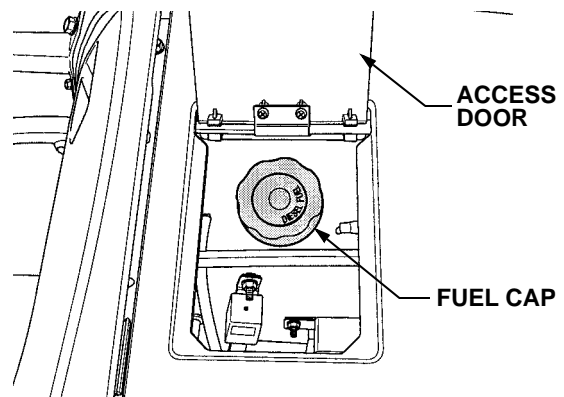

Figure 50
- Check the fuel level before each use. Take care that the fuel tank is not allowed to become empty. See Figure 50.